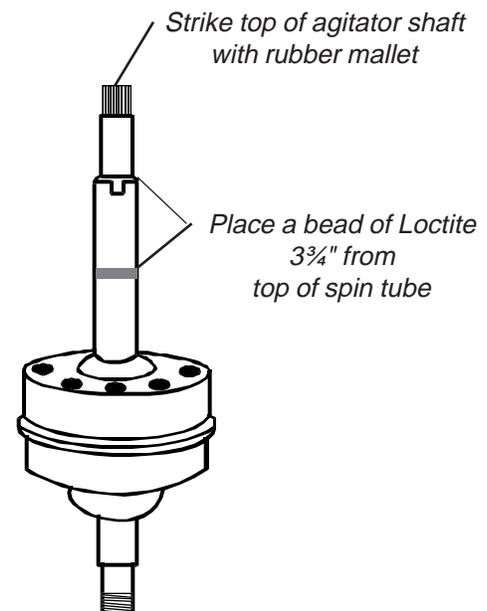

Fig. 29
Refer to Figure 29 for these procedures.
4. When replacing the gearcase a small bead of Loctite should be applied approximately 3 $\frac{3}{4}$ " from the top of the spin tube. (Fig. 29)